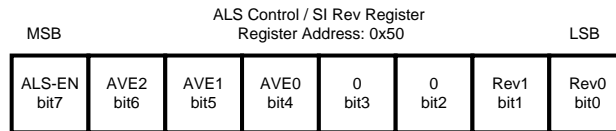
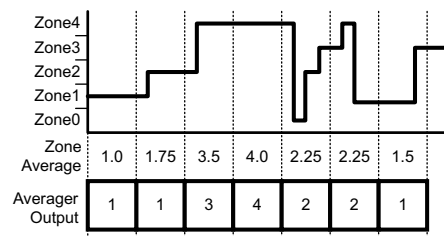

Figure 25. ALS Control / Silicon Revision Register Description
Figure 32. Averager Calculation
The ALS averaging time is the time over which the averager block collects samples from the A/D converter and then averages them to pass to the discriminator block (see Figure 32). Ambient light sensor samples are averaged and then further processed by the discriminator block to provide rejection of noise and transient signals. The averager is configurable with 8 different averaging times to provide varying amounts of noise and transient rejection (see Figure 25). The discriminator block algorithm has a maximum latency of two averaging cycles, therefore the averaging time selection determines the amount of delay that will exist between a steady state change in the ambient light conditions and the associated change of the backlight illumination. For example, the A/D converter samples the ALS inputs at 16 kHz. If the averaging time is set to 800 ms, the averager sends the updated zone information to the discriminator every 800 ms. This zone information contains the average of approximately 12800 samples (800 ms × 16 kHz). Due to the latency of 2 averaging cycles, when there is a steady-state change in the ambient light, the LED current begins to transition to the appropriate target value after approximately 1600 ms have elapsed.
- The averager always rounds down to the lower zone in the case of a non-integer zone average (1.2 rounds to 1 and 1.75 also rounds to 1). Figure 32 shows an example of how the Averager will make the zone decisions for different ambient conditions.